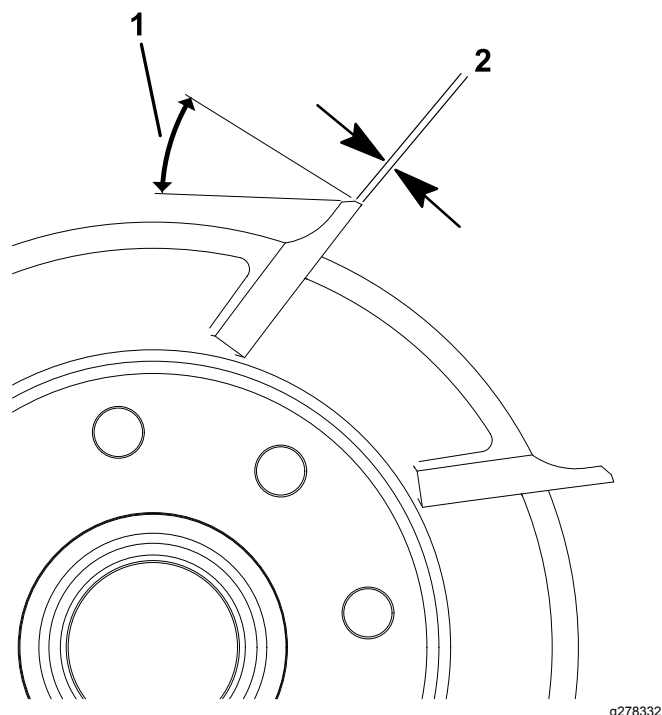

Figure 25
1. Apply a 30° relief grind on all reel blades until the land width is 1.3 mm (0.050 inch) wide (Figure 25).